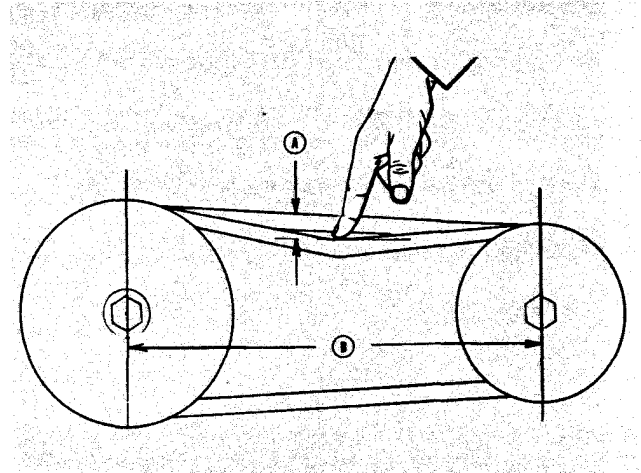

Fig. 2-9, (N11471). Manually checking belt tension
2. If belt tension gauge is not available, tighten belts so pressure of index finger will depress belt amount of deflection in Table 2-2. The index finger should be extended straight down from hand; in this manner, force will be approximately 13 lbs. [5.90 kg] deflection (1, Fig. 2-9) per foot [0.30 m ] of span (2).
3. Deflection (1, Fig. 2-9) should equal amount indicated in Table 2-2 for each foot of belt span (2).